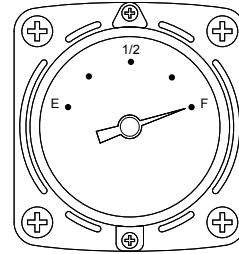

Figure 14. Full Fuel Tank
3. Monitor the fuel gauge while filling fuel tank. Stop filling when the fuel gauge indicates full (Figure 14). **DO NOT** wait for fuel to rise in filler neck.